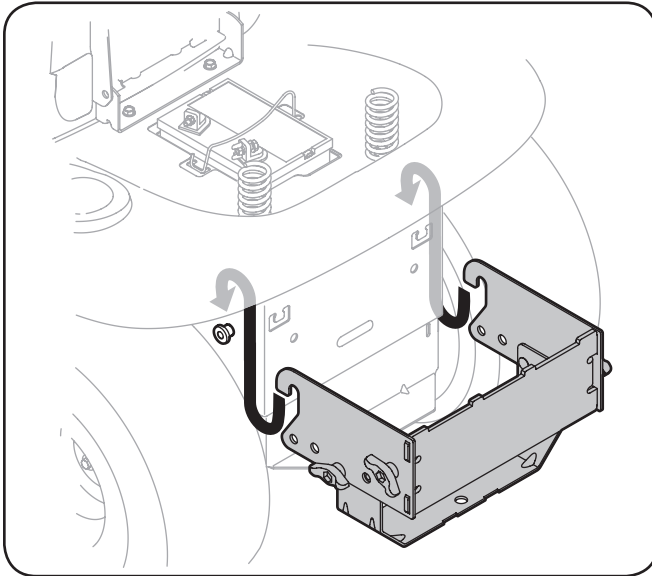

Figure 4-5
1. Place the hooked ends of the mounting assembly over the shoulder bolts, as in Figure 4-5, on the tractor and line up the hitch support bracket center hole with the hole on the tractor's hitch.